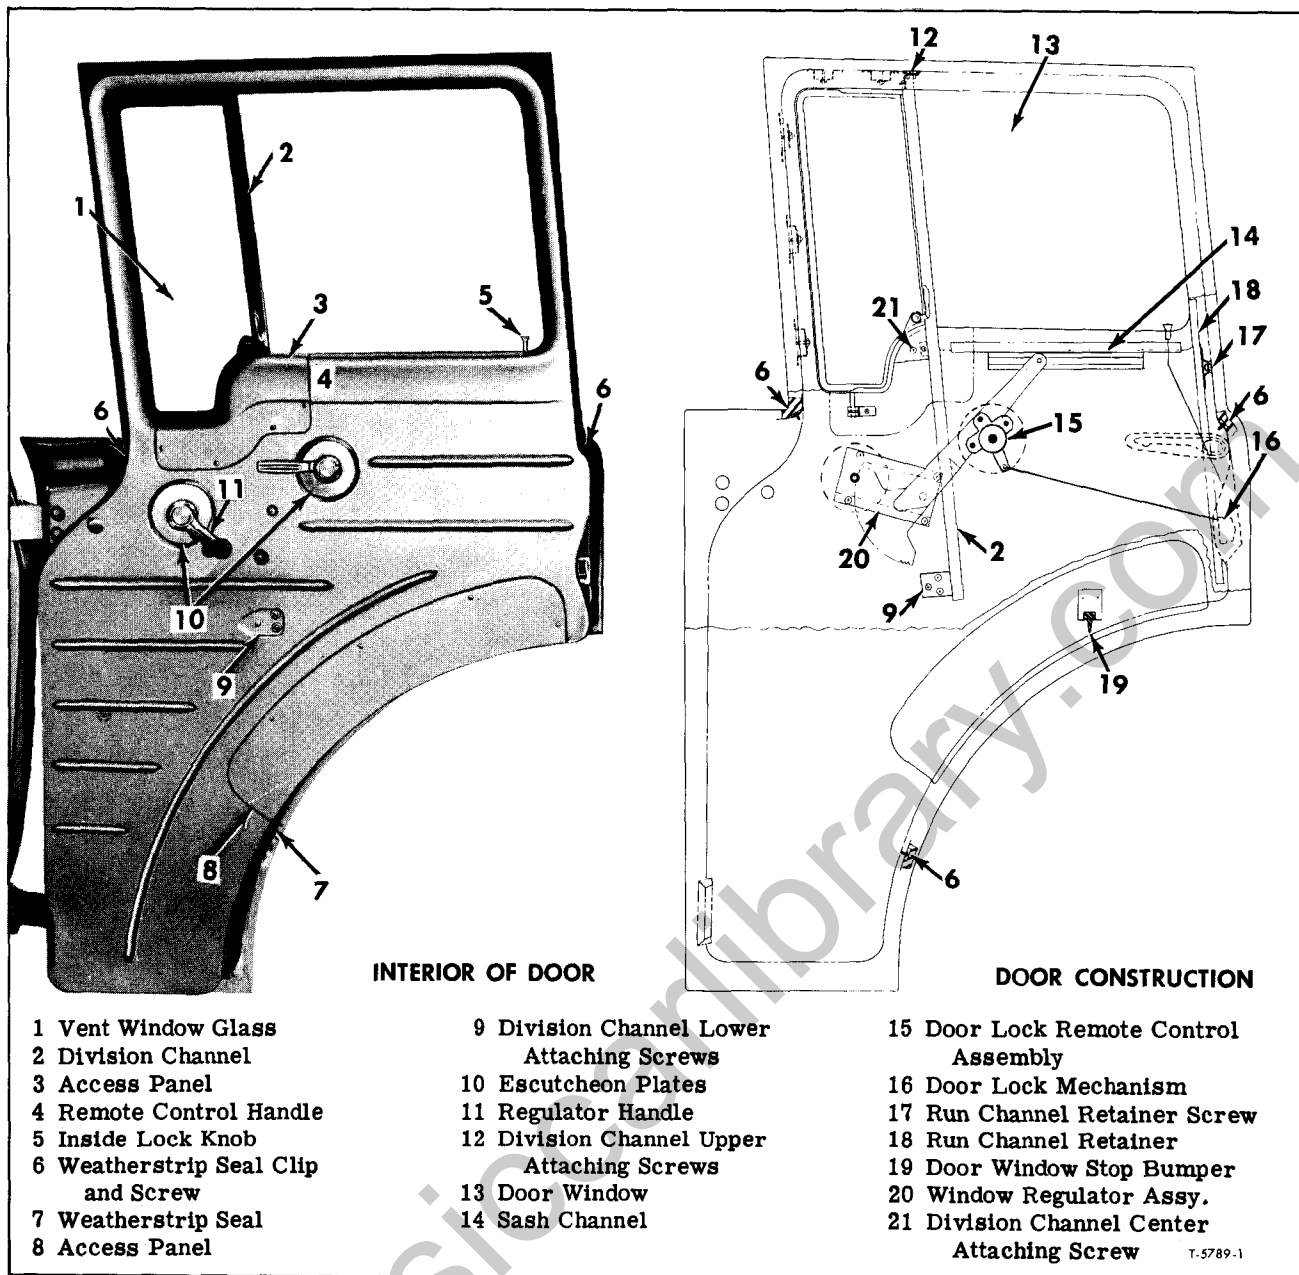

Figure 16—Door Construction
NOTE: Figure 16 illustrates the position of the lock and remote control mechanism components.
INSTALLATION (Figs. 16 and 17)
3. While holding regulator assembly through opening in door, remove four screws (figs. 16 and 17) which attach regulator assembly to door inner panel.
4. Remove frame to door screw and frame to divisional channel screw (fig. 16).
5. Remove three division channel lower attaching screws (fig. 16).
6. Remove division channel screws at top of door (fig. 16).
7. Remove two screws at edge of door which attach run channel to door (figs. 16 and 17).
2. Remove applicable screws which attach either division channel or run channel to door framing (fig. 16) and lower channel(s) through access opening at bottom of door.